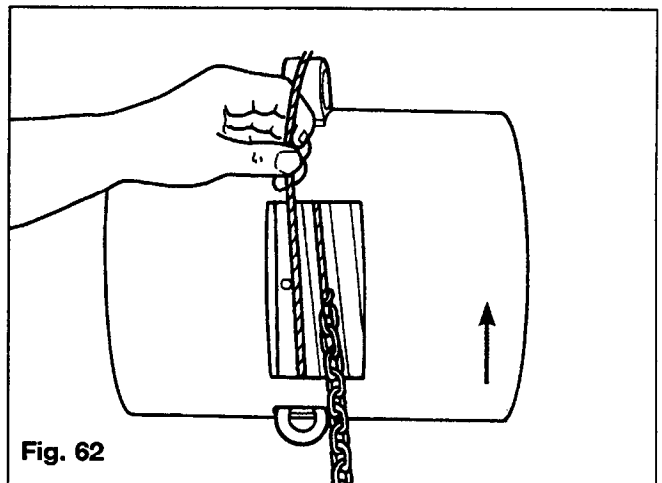

Fig. 62
1. Rotate reel (see direction of arrow in Figure 62) until anchor hole is visible.
2. Attach length of wire to last chain link. Locate the first groove in the reel to the right of the anchor hole. Insert wire into reel groove and push wire in direction shown in Figure 62.